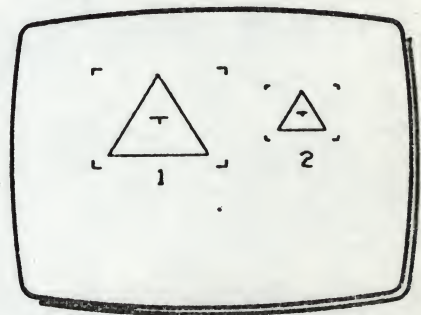

Fig 2
- 2 Move XY to position the cursor frame at (1) in Fig 2.